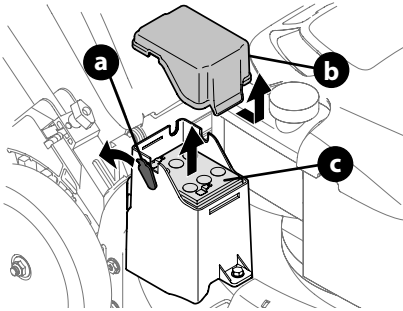

Figure 27
1. Removing the battery (Figure 27):